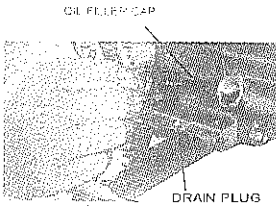

Figure 13- Draining oil
2. Using a hex wrench, unscrew the oil drain plug, which is located on the crankcase underneath the oil filler/dipstick cap (see figure 13). Allow all the oil to drain from the generator.